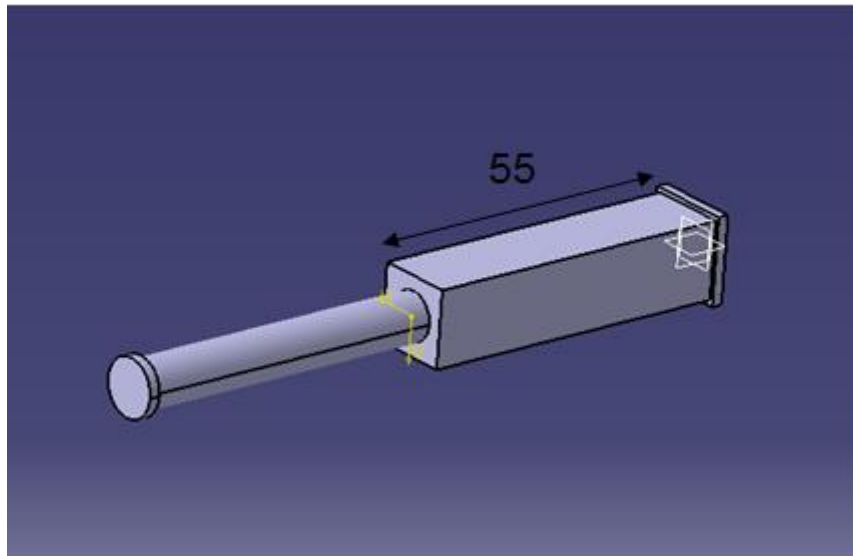

Figure 3.4:Heater Cylinder
2. cylinder: uses to move the heaters. (**Figure 3.4**)